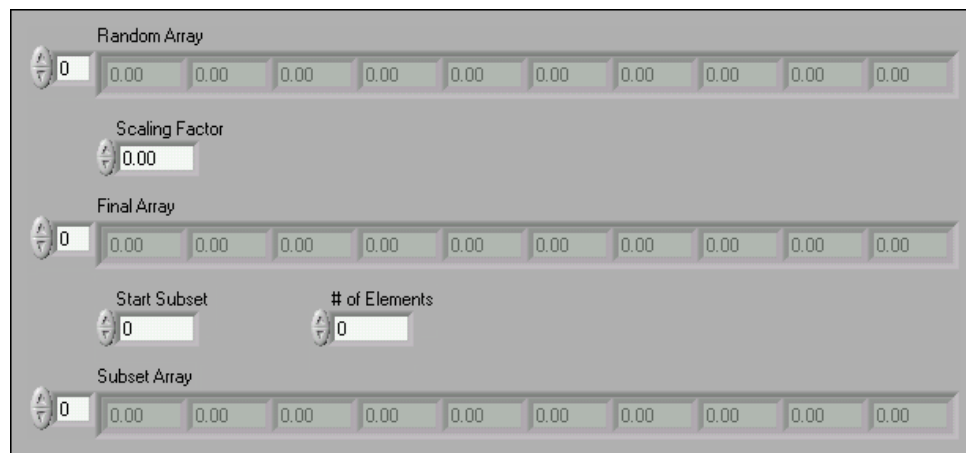

Figure 5.7
1. Open a blank VI and build the front panel shown in Figure 5.7.